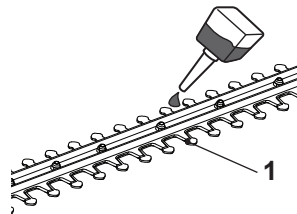

Fig. 9
9. Lubricate the internal surfaces of the blade if the cutting device (blade) (1) overheats during operation (Fig. 9).
1. Keep the cutting device (blade) (1) clean and free of debris. Remove trimmings with a brush.
2. Apply a small amount of suitable lubricant on the cutting device (blade) to retain a good cutting performance (Fig. 9).